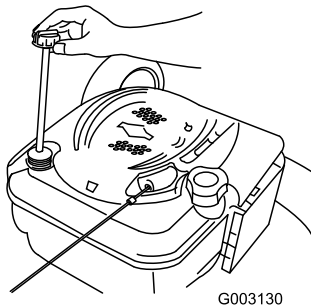

Figure 34
6. Remove the dipstick from the oil-fill tube (Figure 34).